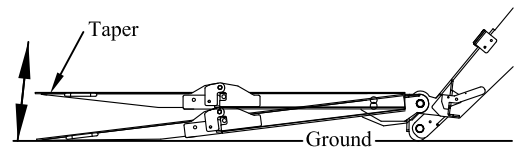

Figure 6: Step 11.
- Step 10. To lower the platform to the ground push down on the control toggle. The platform will lower and the taper will tilt until the platform taper touches the ground (Figure 6).